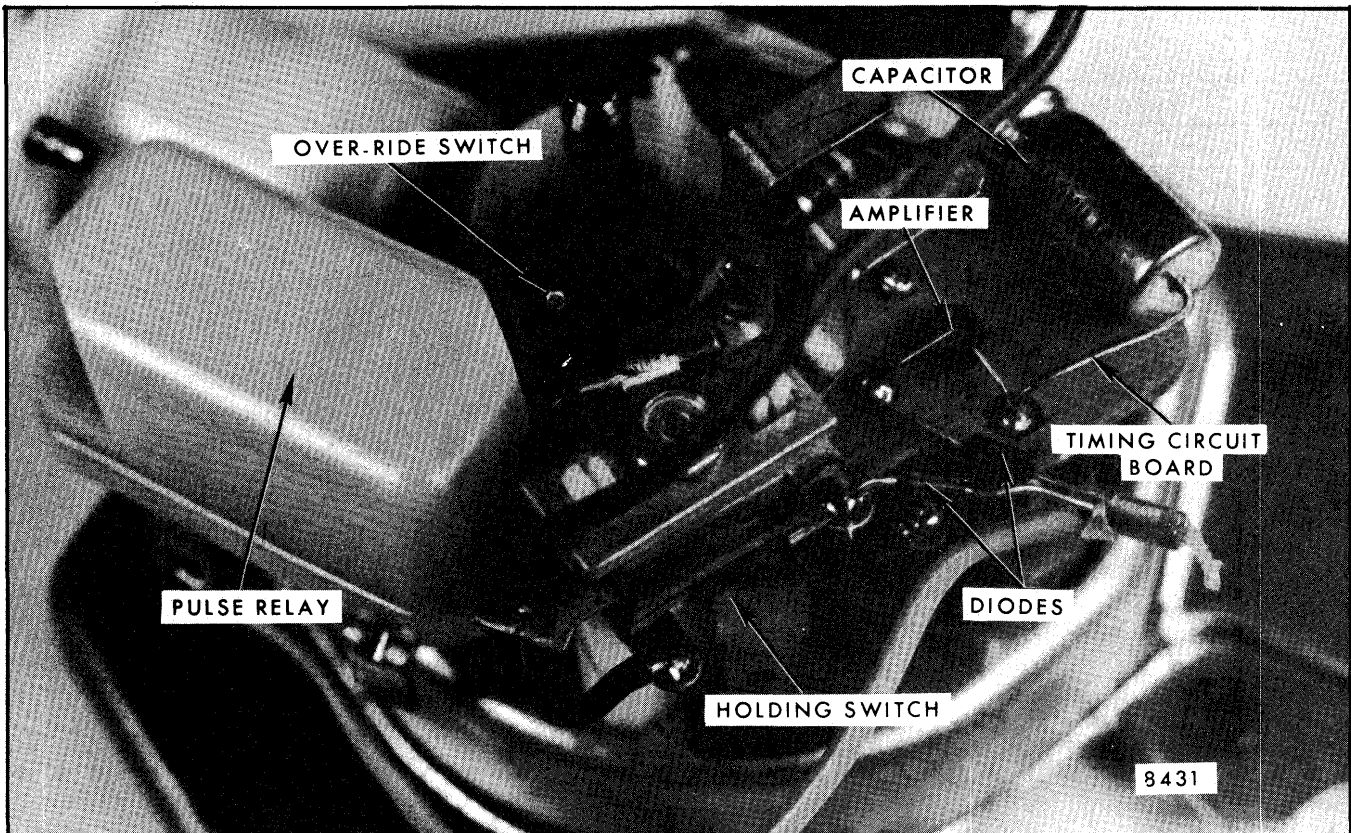
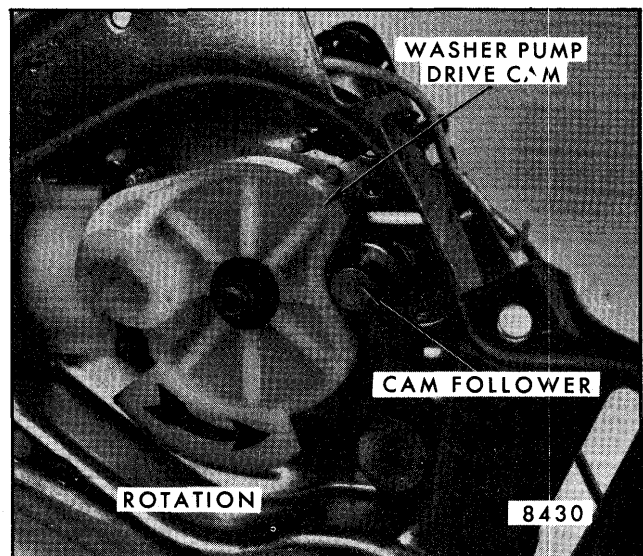
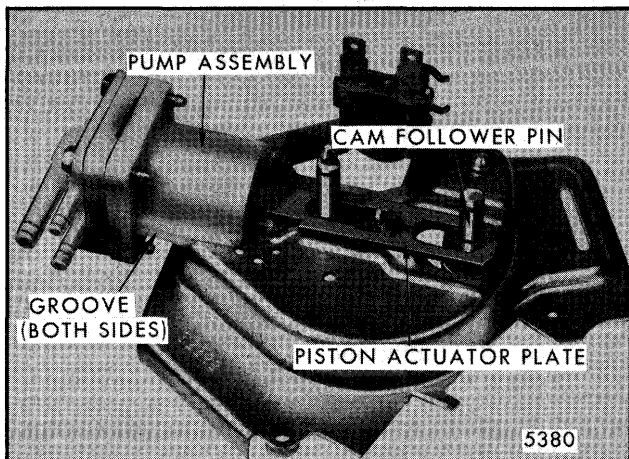
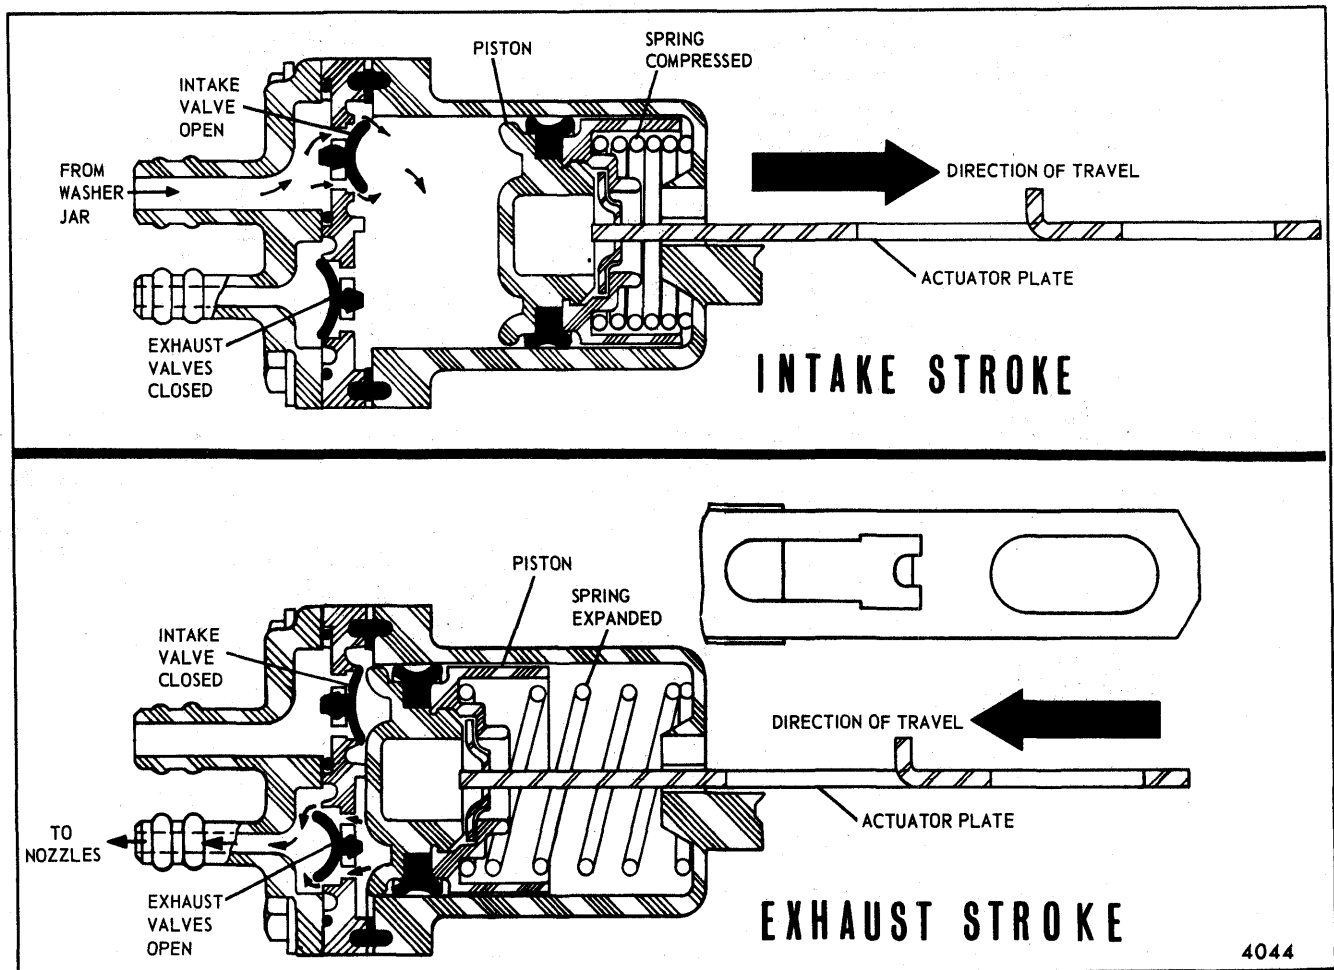

Fig. 2-55-Modified Pulse Washer Pump Timing Circuit
Fig. 2-56-Washer Pump Cam Rotation
Fig. 2-61-Pump Intake Stroke
Fig. 2-64-Intake and Exhaust Stroke
The washer pump used on the pulse wiper differs considerably from the pump used on a standard wiper. Referring to Figure 2-55 note the following components NOT found on a standard pump: (1) Pulse Relay, (2) Override Switch, (3) Holding Switch, (4) Solid State Electronic Device and (5) a special Drive Cam (Fig. 2-56). These special components serve the following functions.
The basic pump mechanism consists of a spring-loaded piston assembly enclosed in a plastic cylinder. Attached to the piston and extending out of the cylinder housing is an actuator plate. A valve assembly consisting of two exhaust valves and one intake valve is attached to the opposite end of the cylinder housing and controls the flow of washer solution (Fig. 2-61).
NOTE: Figures 2-61 and 2-62 show the pump with most of the programming parts removed for illustrative purposes.
Referring to Figure 2-61 note that the elongated slot of the piston actuator plate fits over a pin. This pin is a part of a cam-follower assembly which is actuated by a drive cam located on the underside of the pump mounting plate (Fig. 2-56). When the wiper is running, the drive gear rotates the drive cam which, in turn, causes the cam-follower to move back and forth.
Note that a tang on the piston actuator plate is resting against a ramp on the lower surface of the ratchet gear (Fig. 2-61). This holds the piston actuator plate in a lock out position as long as the RATCHET GEAR IS NOT ROTATED.
The ratchet pawl which is actuated by the same cam-follower pin that moves the piston actuator plate then begins to rotate the ratchet wheel. Rotating the ratchet wheel one tooth moves the ratchet wheel ramp away from the tang of the piston actuator plate (Fig. 2-61, permitting the piston spring to expand which, in turn, forces the piston toward the valve assembly, resulting in the first exhaust stroke (Fig. 2-64).
During the first exhaust stroke the expanded piston spring also pulls the piston actuator plate up tightly against the cam-follower pin. The continuing rotation of the drive cam will now cause the cam-follower pin to move the actuator plate and piston in a direction that will compress the piston spring, causing washer solution to be drawn into the piston housing via the intake valve. (Intake stroke, Fig. 2-64).